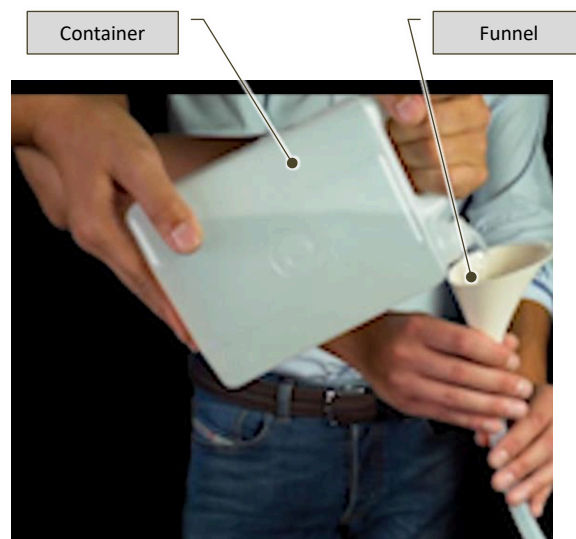

Fig. 7-19 – Insertion of the cooling liquid
- Hold the free end of the top-up tube, insert the supplied funnel in this end and, while holding the tube in vertical position, fill the tank with cooling liquid (Fig. 7-19): the correct cooling liquid level in the tank is reached when water starts flowing out of the upper “overflow” tube;